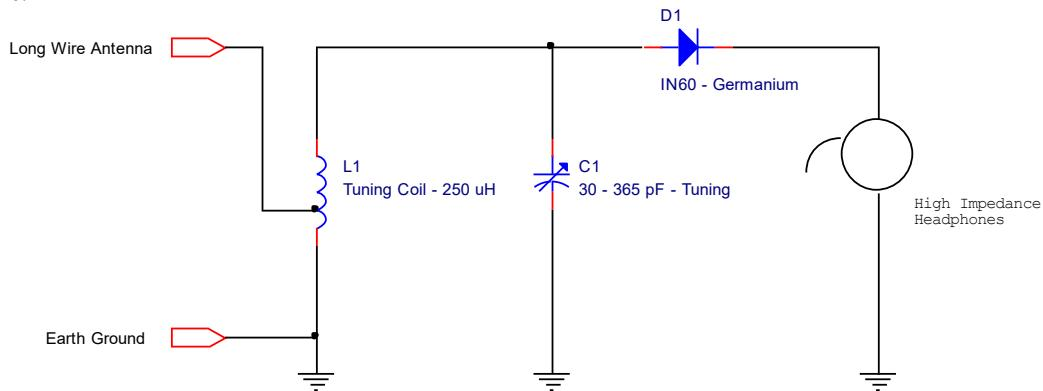

Figure 5-2 A Crystal Radio Receiver
These are the basic steps a receiver needs to perform. In simple radio receivers, some of the tasks can be omitted. For example, you may have built a *crystal radio receiver*. A crystal receiver uses only the energy from the incoming radio wave to produce the sound. A long wire antenna is usually required in order to receive sufficient signal. Figure 5-2 shows the schematic of one type of crystal receiver. There are thousands of different possible crystal receiver designs. Many active enthusiast groups build and study these simple receivers.
There isn't much to the circuit of Figure 5-2. A *long wire* antenna is connected to the upper input terminal. (A length of wire 50' or longer will work well.) The *earth ground* terminal must be connected to a good earth ground in order to provide an AC return path for the antenna signal. (A ground rod, or metallic cold water pipe could be used.)
What is the approximate tuning range of the receiver of Figure 5-2?
- 5-4 What steps of reception are performed in the circuit of Figure 5-2?
- 5-6 How does the end user control the frequency of the bandpass filter in the receiver of Figure 5-2?